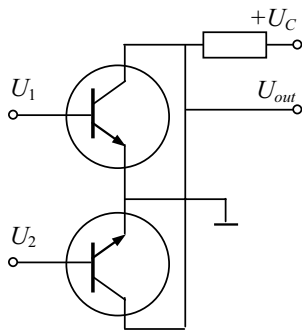

Fig. 2.61
**NOR gate.** The emitter follower is not the only output of the circuit described earlier. The collector output may be used too, if the emitter terminals are grounded as shown in Fig. 2.61. In these circuits, the output signal is inverted regarding to the input. The topology is known as a *NOR gate (OR-NOT circuit)*. This component is a *NOT OR*, or inverted *OR* gate. Its output is high only when all the inputs are low.